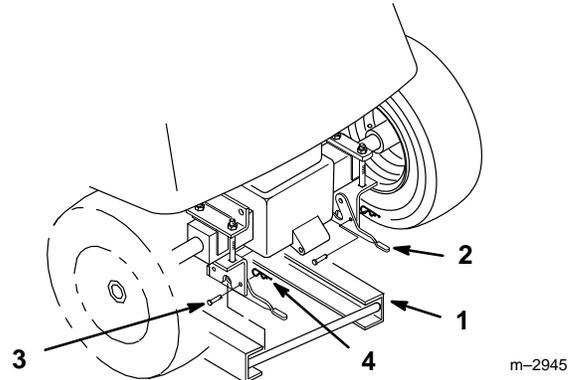

Figure 5
- Open latch levers and lift frame into position at rear hitch. Close latch levers and secure closed with 1/4 x 3/4" (19 mm) clevis pins and small hairpin cotters (Fig. 5).